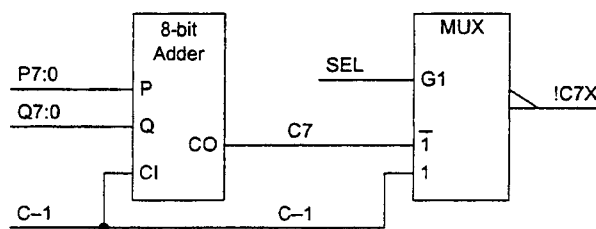

Figure 4.2
- In *Figure 4.2*, the 8-bit adder is followed by a carry-skip multiplexer. The signal C_{7X} has the same value as C_7 but has a lower propagation delay under some circumstances. Implement the multiplexer using logic gates to generate the carry signal, $!C_{7X}$, in bundle form with only one gate delay in the data path. Give a Boolean expression for SEL, the select input of the multiplexer. [4]